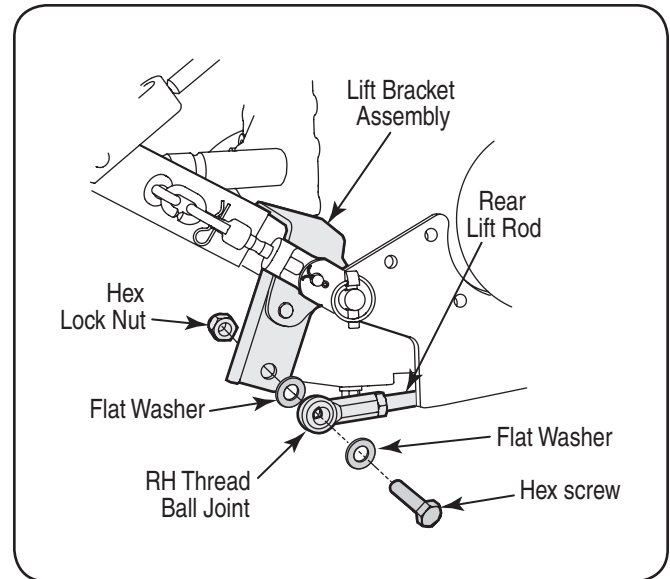

Figure 10
- Working at either the right, or left, rear of the tractor, grasp the rear lift rod assembly and pull the rod as necessary to align the ball joint hole with the hole at the bottom of the lift bracket. Refer to Figure 10.
- Slide a flat washer (7) onto the hex screw (6) and insert the hex screw through the ball joint. Slide a second flat washer (7) onto the hex screw, and insert the screw through the lift bracket. Secure with the hex lock nut (8). See Figure 10.